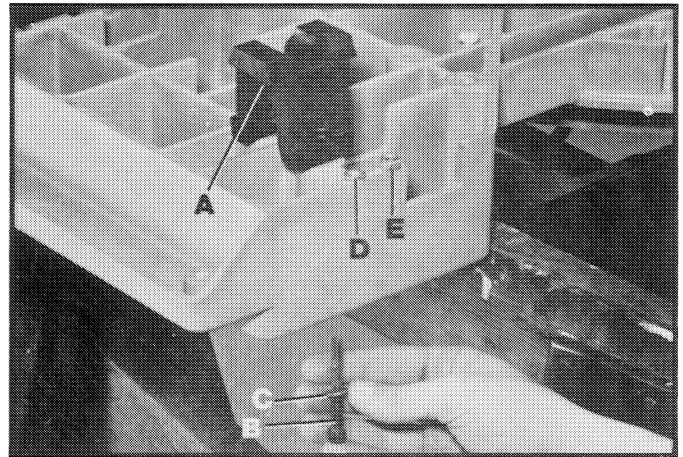

Fig. 1
1. Turn the saw upside down on a supporting surface, such as two sawhorses, and assemble the four outside leg brackets (A) Fig. 1, to the bottom of the saw using the eight 2" long allen screws (B), flatwashers (C), lock washers (D) and hex nuts (E), as shown.